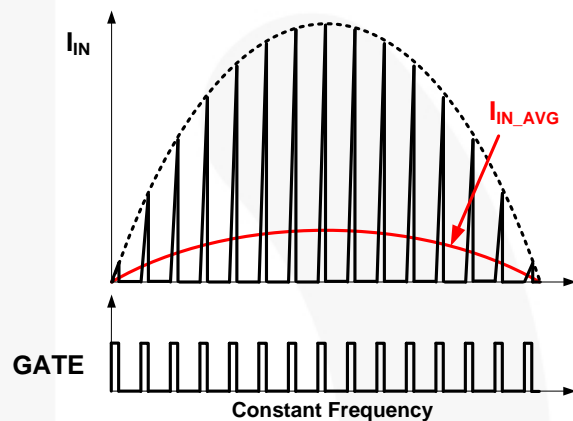

Figure 16. Input Current and Switching
In a conventional boost converter, Boundary Conduction Mode (BCM) is generally used to keep input current in phase with input voltage for Power Factor (PF) and Total Harmonic Distortion (THD). In flyback / buck boost topology, constant turn-on time and constant frequency / Discontinuous Conduction Mode (DCM) can implement high PF and low THD as shown in Figure 16. Constant turn-on time is maintained by the internal error amplifier and a large external capacitor (typically over 1µF) at the COM1 pin. Constant frequency and DCM operation is managed by linear frequency control.